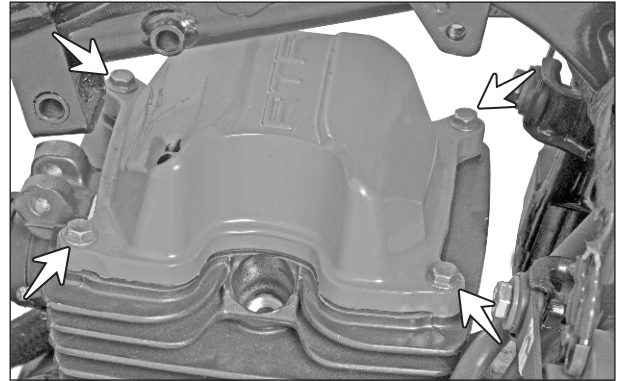

Fig. 3.35
- Remove the hexagonal flange bolt (M16x25 - 4 nos.) from the cover cylinder head mounting. (Fig. 3.35)